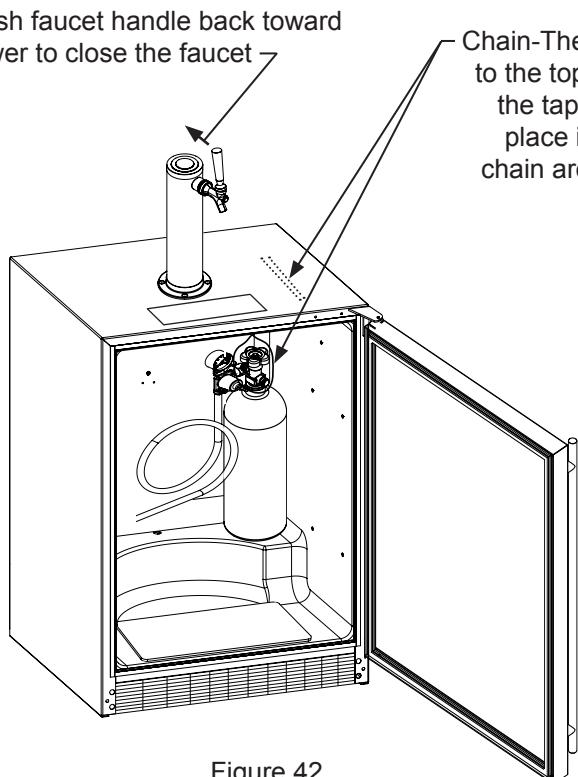

Figure 42
8. Locate the CO₂ tank in the corner of the refrigerator as shown in Figure 42 and secure with the chain. Close the faucet handle on the tower.